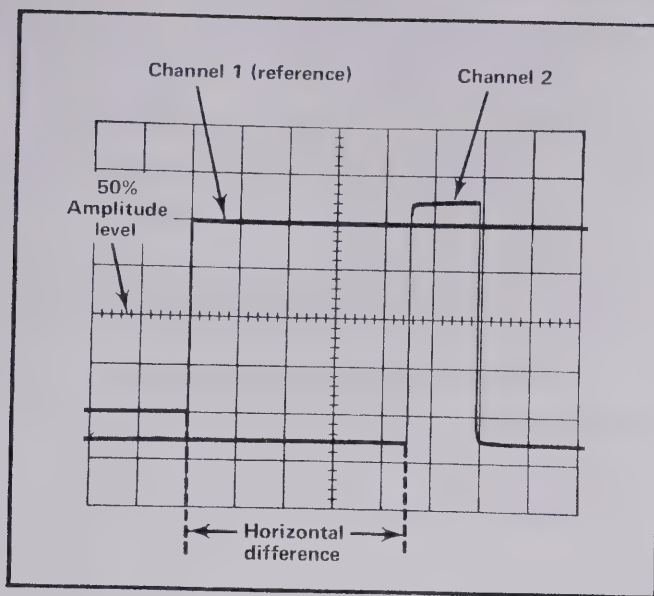

Fig. 6. Measuring time difference between two pulses.
11. Measure the horizontal difference between the Channel 1 waveform and the Channel 2 waveform (see Fig. 6).
Example. Assume that the TIME/DIV switch is set to 50 μ s, the MAG switch to X10 and the horizontal difference between waveforms is 4.5 divisions (see Fig. 6).